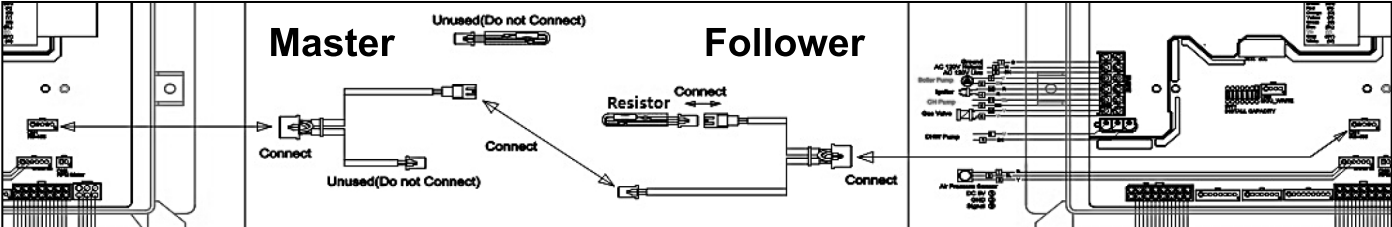

Figure 31 - Cascade Wiring Example
- 1. Connect the five pin connectors of the cascade communication cables to the control board of every unit. See Figures 31 and 32.